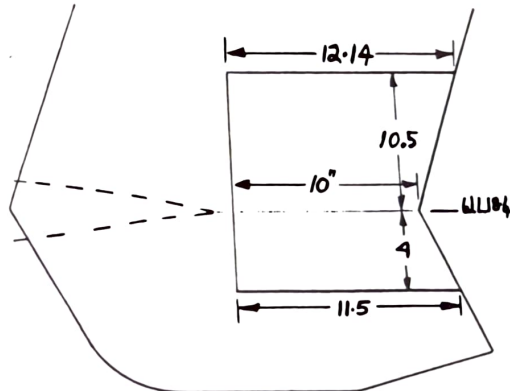

FIG. 20
STEP 7. RUDDER Carefully layout the rudder dimensions shown (Fig. 20), on the outside and inside of the winglet. Saw through the skin on both sides with a razorsaw, then cut through the foam, to remove the rudder. The rudder is hinged on its outboard edge with a piano hinge. The piano hinge is 7.5 in. long, extending from W.L. 18.4 up. Study section D-D, view B-B and Section E-E.